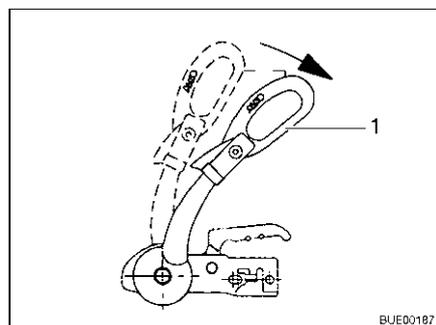

Fig. 209 Stabilising handle
- Open the stabilising handle (Fig. 209,1).